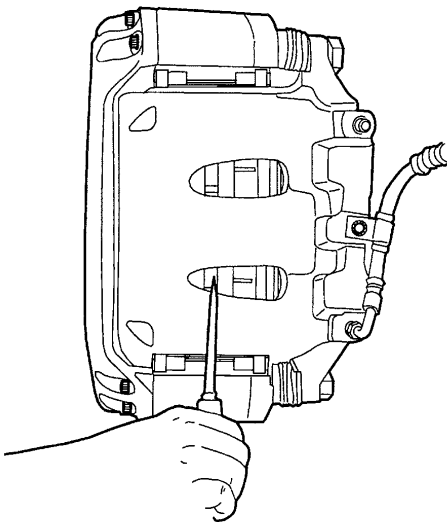

Figure 13 Push Caliper Outboard Pushing Pistons into Piston Bores
3. Insert a screwdriver in one of the rotor cooling fin slots and pry the caliper outboard pushing the caliper pistons into the piston bores. This will allow removal of caliper (Figure 13).